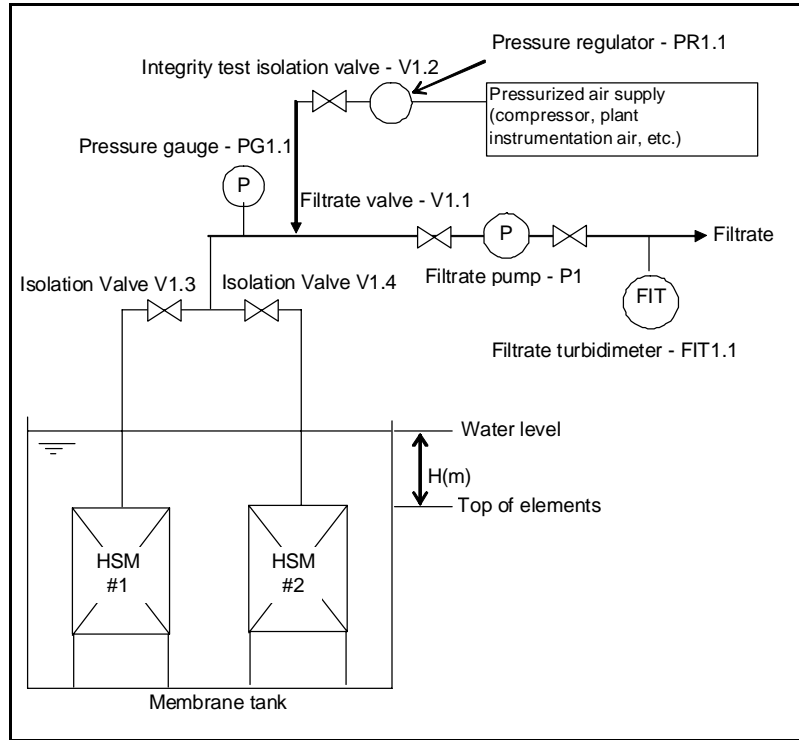

Figure 1: Simplified system schematic for pressure hold test
Configure a system as shown in Figure 1 to apply the specified pressure to the unit. Multiple module trains can be tested, but each module must be tested individually.
- 2) Close the train filtrate valve (V1.1 in Figure 1) and other module isolation valves in the test train (V1.4 in Figure 1). With the pressure regulator (PR1.1 in Figure 1) closed, open the integrity test isolation valve (V1.2 in Figure 1).
- 3) Slowly open the pressure regulator (PR1.1) until the pressure is 22 kPa + the water head (H) above the top of the elements ($(h \text{ (m)} \times 10) \text{ kPa}$). Record the pressure, P_o .
- c) If the pressure drop after five minutes is less than 7 kPa ($P_o - P_5 < 7 \text{ kPa}$), then integrity is confirmed for the test module (HSM #1 in Figure 1) piping and connections. Repeat procedure for all other modules, one module at a time.
- c) Repeat Step (5).
Each HYDRASub®-MBR system is divided into trains, which consist of sets of modules connected to a common header. Each train in a system should have a dedicated online turbidimeter (FIT1.1 in Figure 1) installed or provisions to divert filtrate from each train to a common turbidimeter. If the filtrate turbidity is above the maximum value allowed, then it would be necessary to isolate the train for further testing. Please note that sufficient time should be allowed to flush the turbidimeter if a common turbidimeter is used for multiple trains so as to displace filtrate in the lines from other trains. This is especially important if other trains have undergone cleaning (chemically enhanced backwash (CEB) or clean-in-place (CIP)) before the train being checked is tested. The PLC should be programmed so that the alarm set point for high-turbidity is raised for the train under study for a buffer period of 1 hour following CEB or CIP cleaning. For example, if the high-turbidity alarm set point is 0.5 NTU for regular operation, the set point can be increased to 2 NTU during a buffer period following CEB and CIP or the alarm can be disabled. These set points may vary for each system and will be specified by Hydranautics in the product and performance warranties for each project. As long as the filtrate turbidity remains below these set points, then system integrity is confirmed, **DO NOT PERFORM PRESSURE HOLD INTEGRITY TESTING.**
- 2) Close the train filtrate valve (V1.1 in Figure 1) and all other module isolation valves in the test train (V1.4 in Figure 1). With the pressure regulator (PR1.1 in Figure 1) closed, open the integrity test isolation valve (V1.2 in Figure 1).
After identifying the module(s) with the suspected integrity problem, remove the module(s) from the membrane tank according to TSB411 for further inspection. During removal, care should be taken to ensure that the filtrate hoses do not submerge into the mix liquor and get contaminated. Prior to removal, the filtrate isolation valve (V1.3 for HSM #1 and V1.4 for HSM #2 in Figure 1) for that particular module should be closed.